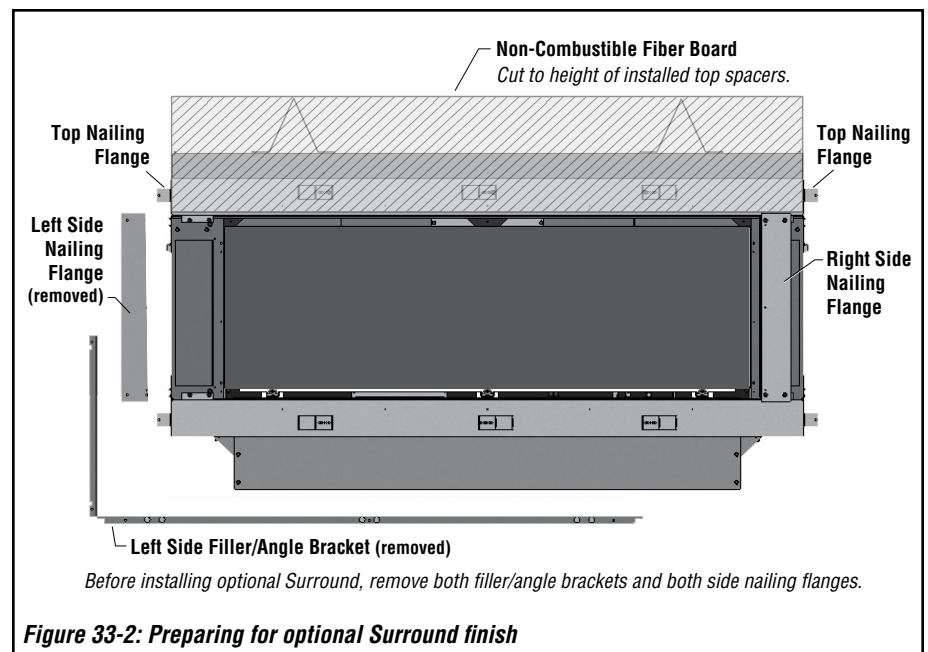

Figure 33-2: Preparing for optional Surround finish
- LEFT/RIGHT SIDE NAILING FLANGES:** Make sure the LEFT and RIGHT SIDE Nailing Flanges are installed (see **Figure 33-2**).
- LEFT/RIGHT SIDE NAILING FLANGES:** REMOVE the LEFT and RIGHT SIDE Nailing Flanges (see **Figure 33-2**), and discard using appropriate disposal methods.
- LEFT/RIGHT FILLER/ANGLE BRACKETS:** REMOVE the two Filler/Angle Brackets (see **Figure 33-2**), and discard using appropriate disposal methods.
- NON-COMBUSTIBLE FIBER BOARD:** See **Figures 33-2 (this page) and 34-1 (next page)**. Attach the provided non-combustible fiber board to the TOP nailing flange, and secure using field-supplied screws.